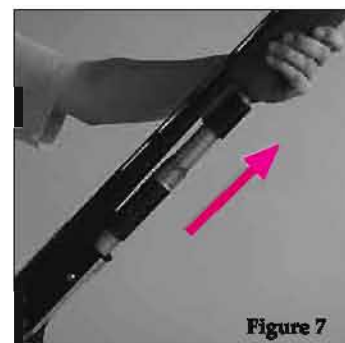

Figure 7
- 5) Slide the forend toward the muzzle and remove it (see figure 7)